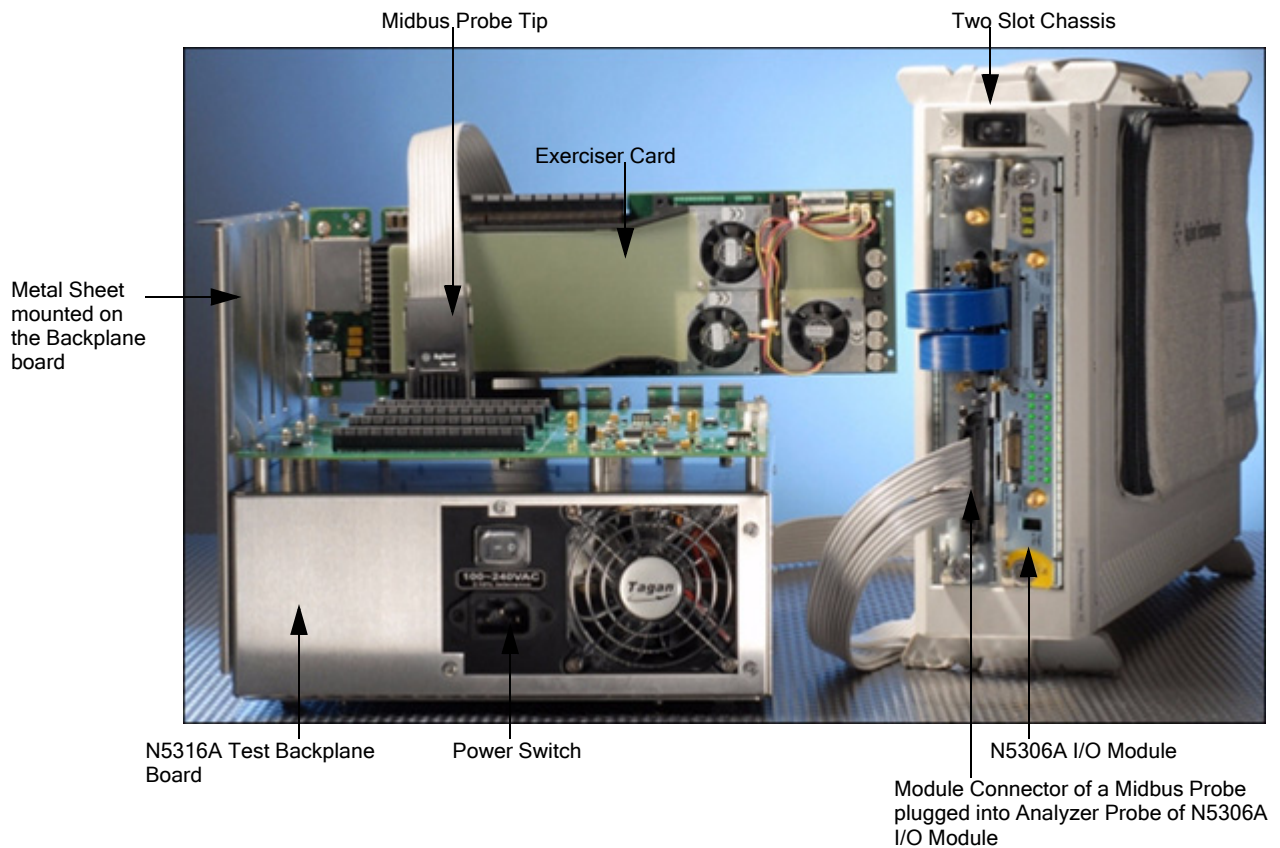
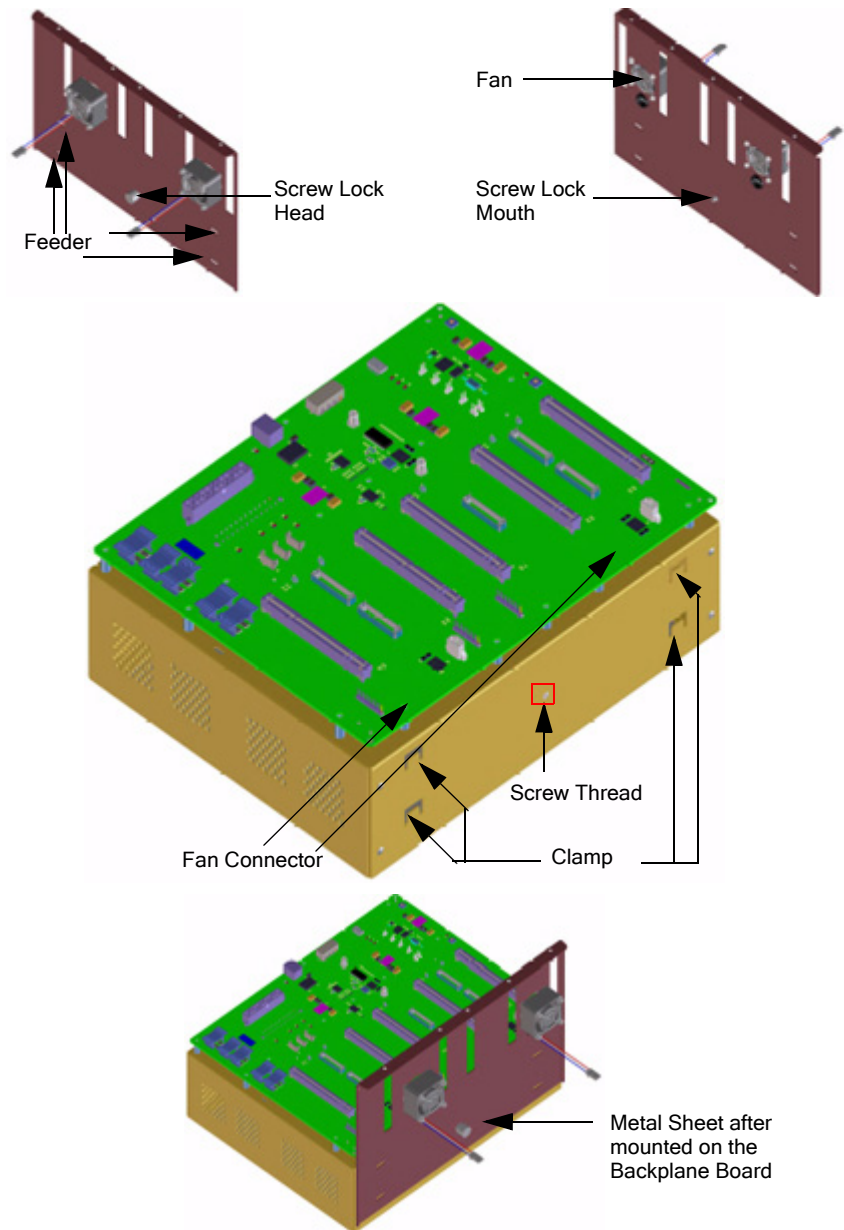

Figure 1 System Protocol Tester Hardware Setup
Figure 2 Mounting Metal Sheet on the N5316A Backplane Board
Figure 1 shows one of the possible interconnection of N5316A Test Backplane, Exerciser Card, Midbus Probe, and Chassis.
- Connect the *fan cable* of the fans on the metal sheet to an appropriate *fan connector* on the backplane board. This completes mounting the metal sheet on the backplane board (Figure 2).
- The *N5316A test backplane* board for PCIe 5 Gb/s, shown in Figure 1 and Figure 2, is *passive*. This board has: